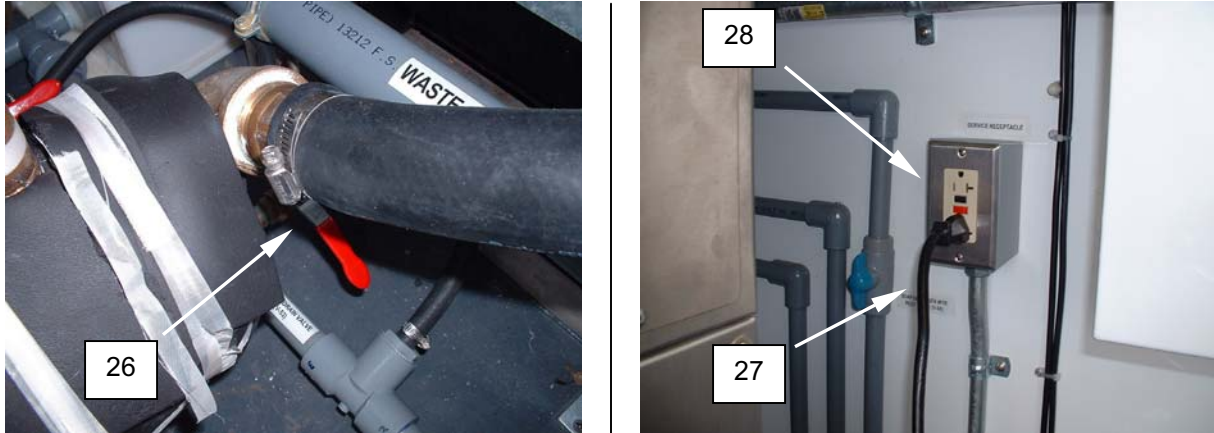

Figure 9. Purge Automatic Soap Dispenser.
11. Close P-1 pump drain valve V-53 (**Figure 9, Item 26**) and boiler outlet drain valve V-37.
12. Connect the air compressor power cord (**Figure 9, Item 27**) to the service receptacle (**Figure 9, Item 28**).